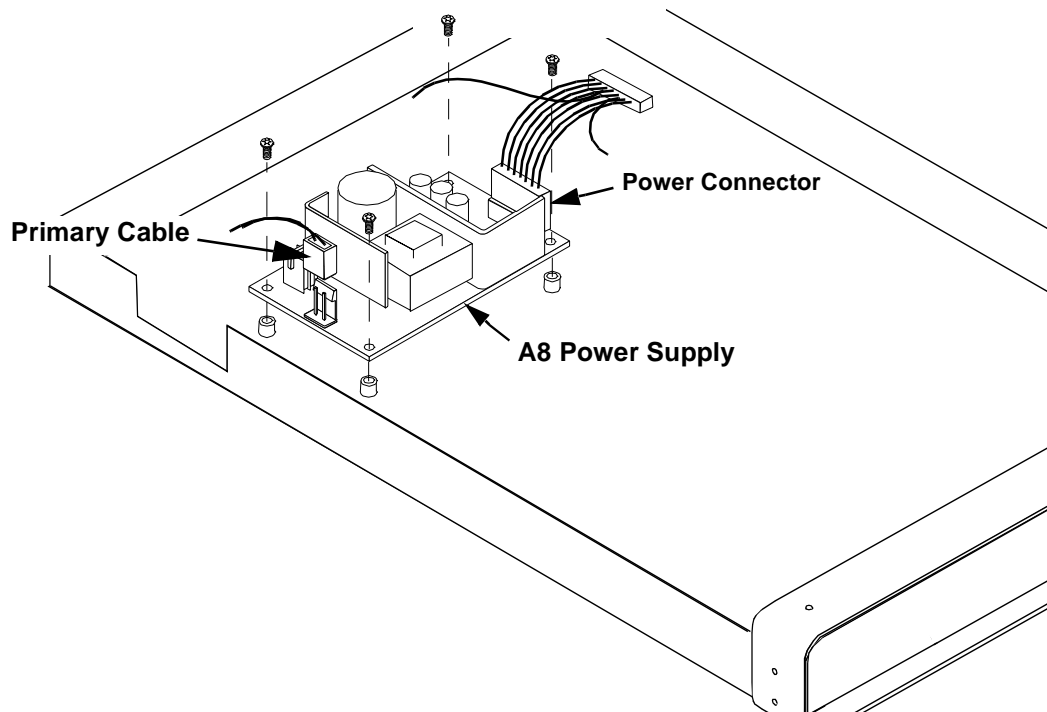

Figure 19
1. Disconnect the power connector from the A8 power assembly, see figure 19 .